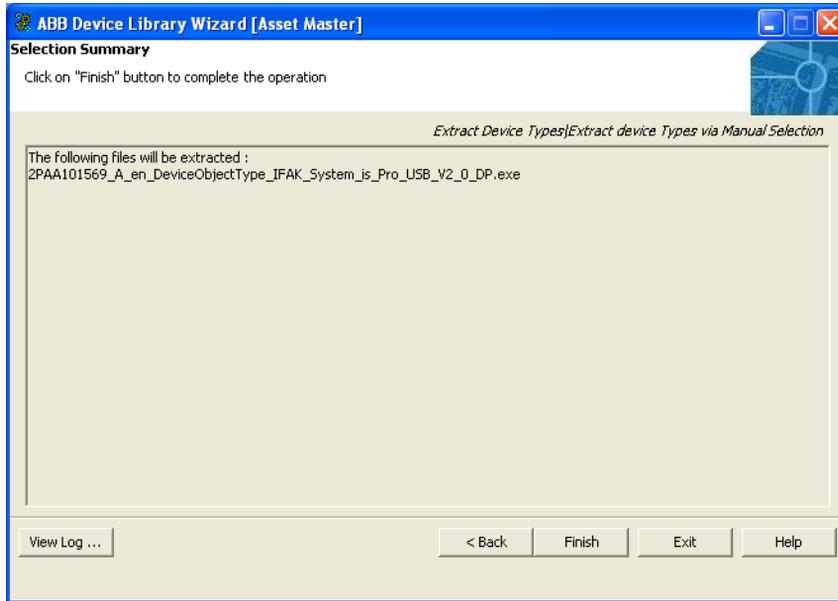

Figure 101. Selection Summary
9. In the resulting screen, similar to the one shown in Figure 101, review the Device Object Types to be extracted and click **Finish** to continue extraction.